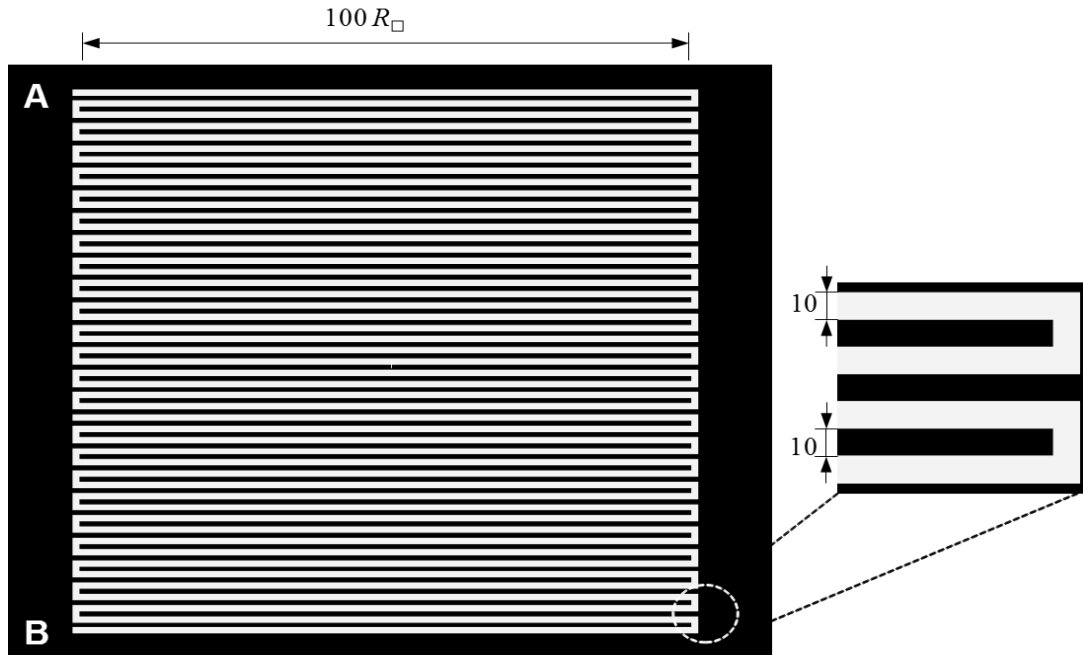

Figure 2: A test structure layout in a serpentine pattern.
We can make a guess that metal3 sheet resistance of the C5 process may be around 0.05Ω . Lets lay out a test structure consists of approximately $5000 R_{\square}$ in order to reduce the error term in Eq. (1). Lets also try to avoid elecromigration as well as large layout size by setting the width of the metal3 to be twice of the minimum in DRC rules, or a drawn width of 10. If there are $100 R_{\square}$ in a single row of the structure, we then need about 50 rows. This layout is shown in Fig. 2.
Since there are corners in the serpentine pattern, the layout in Fig. 2 only has 49 rows.